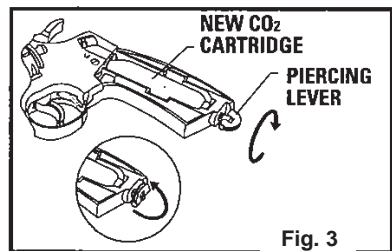

Fig. 3
- With your thumb and finger, turn the piercing lever clockwise to pierce the CO₂ cartridge. (Fig. 3) **Never use any tool on the piercing lever. Over-tightening can cause injury to you and/or damage to your airgun.**